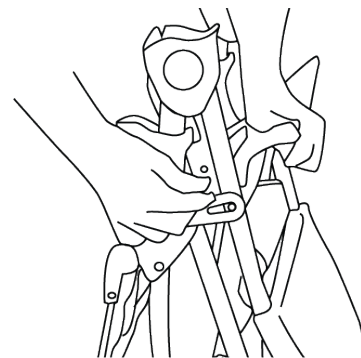

Fig 22a
21. Place the stroller on the ground with all three wheels touching the ground. Release the locking folding latch, which is located on the right side. (Fig. 22a)